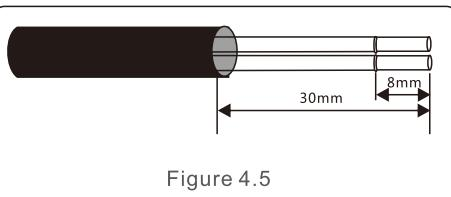

Figure 4.5
- Strip the insulation and shield to a suitable length. Use diagram below as a guide. (in Figure 4.5).
- Pull down the terminal block on user interface board(See Figure 4.5).
- Firstly insert cable into terminal board, then tighten the screws (dotted area) clockwise with slotted screwdriver; if user need to pull out cable, screws rotates anticlockwise with slotted screwdriver(See Figure 4.5).